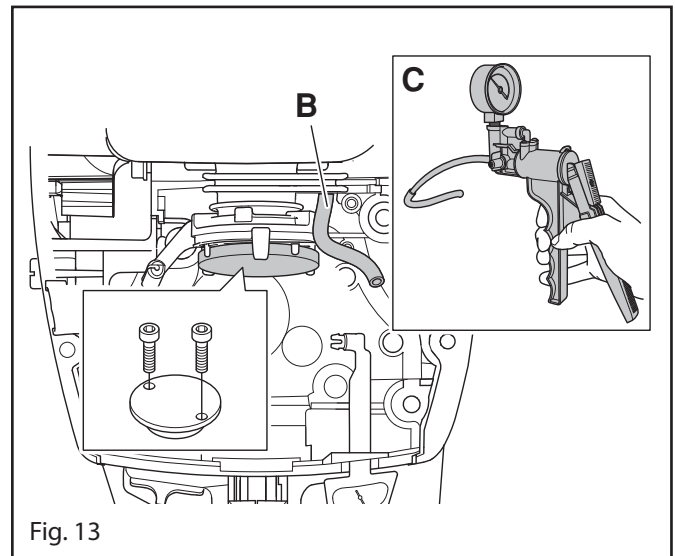

Fig. 13
2. Connect tool 531 03 06-23 (C) to the impulse channel (B) on the inlet manifold. See fig. 13. The decompression valve should be closed.
5. Use tool 502 50 30-14 and pull on the flywheel side crankcase half. Pull until the gasket is clamped between the two halves. See fig. 13.